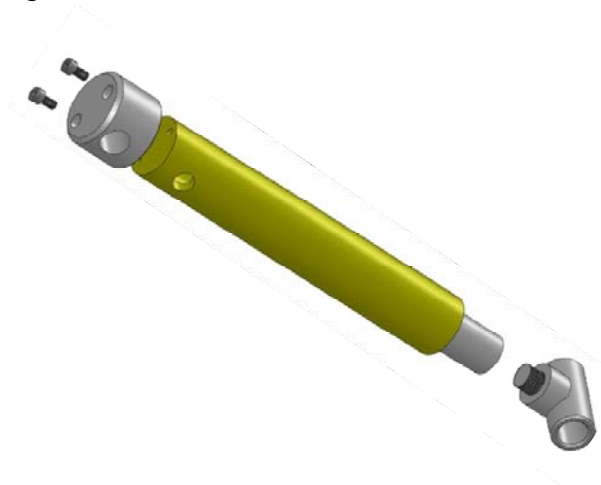

Figure 6.6
2. Install the cylinder according to the Figure 6.6 shows.